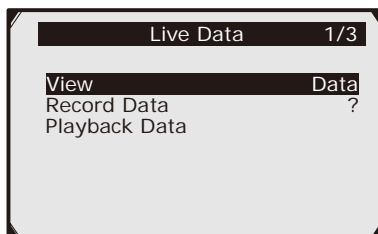

Figure 5.12
To record live data, use the **Up/Down** scroll button to select **Record Data** from **Live Data** menu (See **Figure 5.12**) and press the **OK** button.
1. To playback recorded data, use the **Up/Down** scroll button to select **Playback Data** from **Live Data** menu and press the **OK** button. (See **Figure 5.12**)